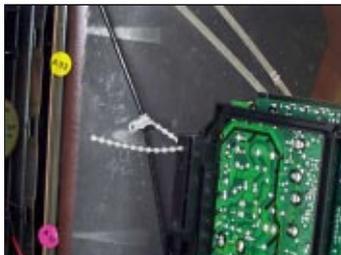

Fig.5.
1. Remove the bead clumper from the mains lead and attach to the degauss coil, shown in **Fig.5**.
6. Clip the chassis frame onto the bead clumper, on the degauss coil, as shown in **Fig.5**.